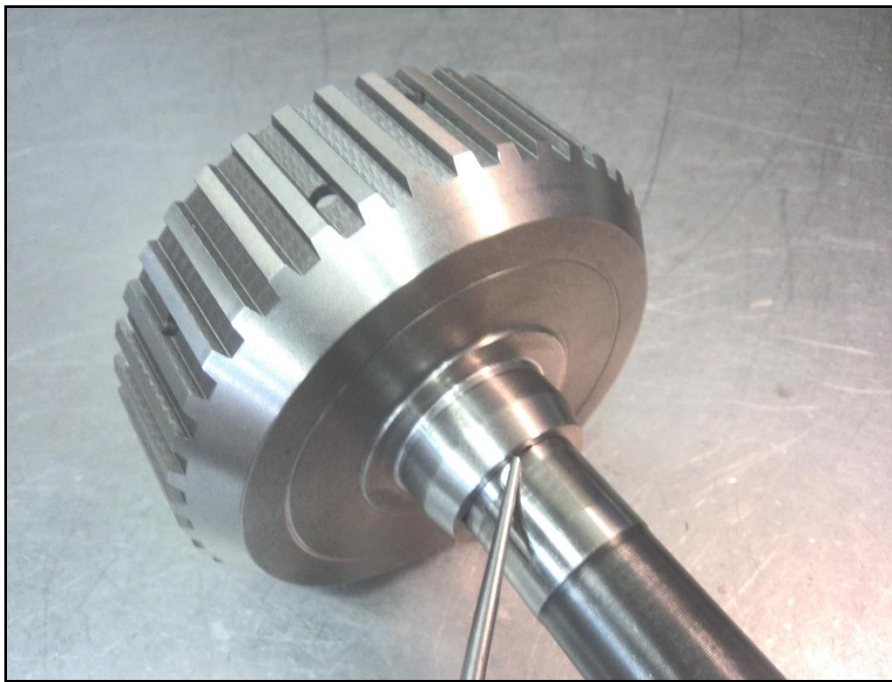

FIGURE 6-88
Normal operating conditions result in the forward clutch housing assembly thrusting rearward into the mainshaft (681). In high load applications this rearward thrust can push the mainshaft with enough force to result in damage to the # 22 thrust bearing assembly (686, 687, 688) and output shaft to case thrust and selective washers (695,696). By creating a thrust surface in the front face of the center support, this rearward thrust can be cancelled out at the center support without making it to the mainshaft. The origin of this rearward thrust begins in the torque converter. Pressurized converter charge oil in the torque converter creates a force that acts on the front face of the input shaft (601). The amount of this force (measured in pounds) is calculated by multiplying converter charge pressure by the surface area of the front face of the input shaft. Typically, “corrected”* converter charge pressure in a high load application will be @ 60 psi. The surface area of a production input shaft is .785”. This combination results in 47.1 pounds of rearward force acting on the front face of the input shaft and forward clutch housing assembly. This force is then transmitted to the mainshaft at the interface between the forward clutch hub (616), and the mainshaft. This occurs because the front end of the mainshaft acts as a stop for the front end of the forward clutch hub. See Figure 6-88.